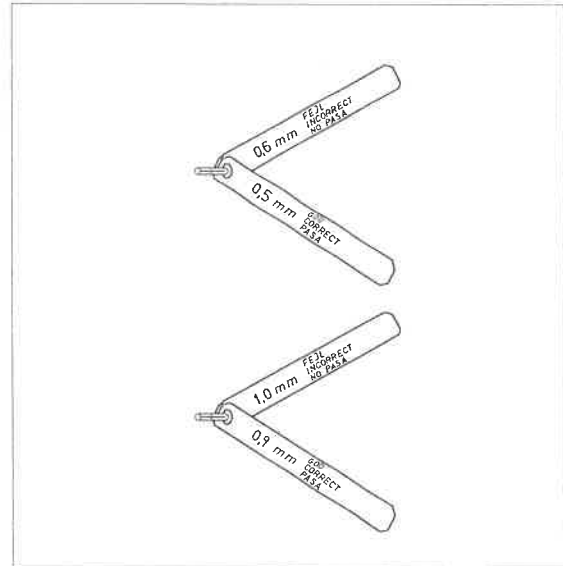

Fig 3.
10) The feeler gauges for checking the clearance have two gauges which are marked "incorrect" and "correct", the latter to be used when adjusting the valve clearance, see fig 3.